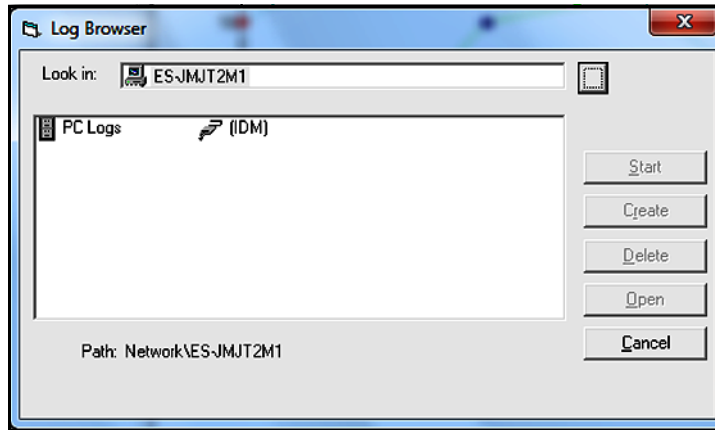

Figure 80: Log Type Selection
3. Double-click computer name to advance to the dialog box shown in *Figure 80* below.